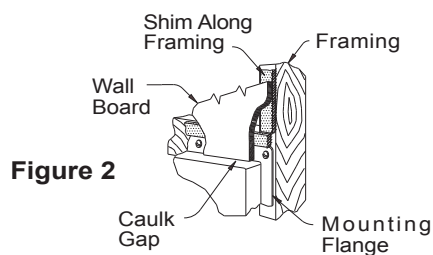

Figure 2
8. Finish wall board as detailed in *Figure 2*.